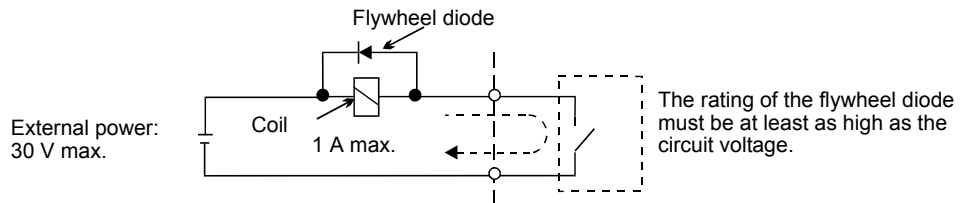

Fig 2.12 Flywheel Diode Connection
- \* 2. When driving a reactive load, such as a relay coil, always insert a flywheel diode as shown in Fig 2.12.